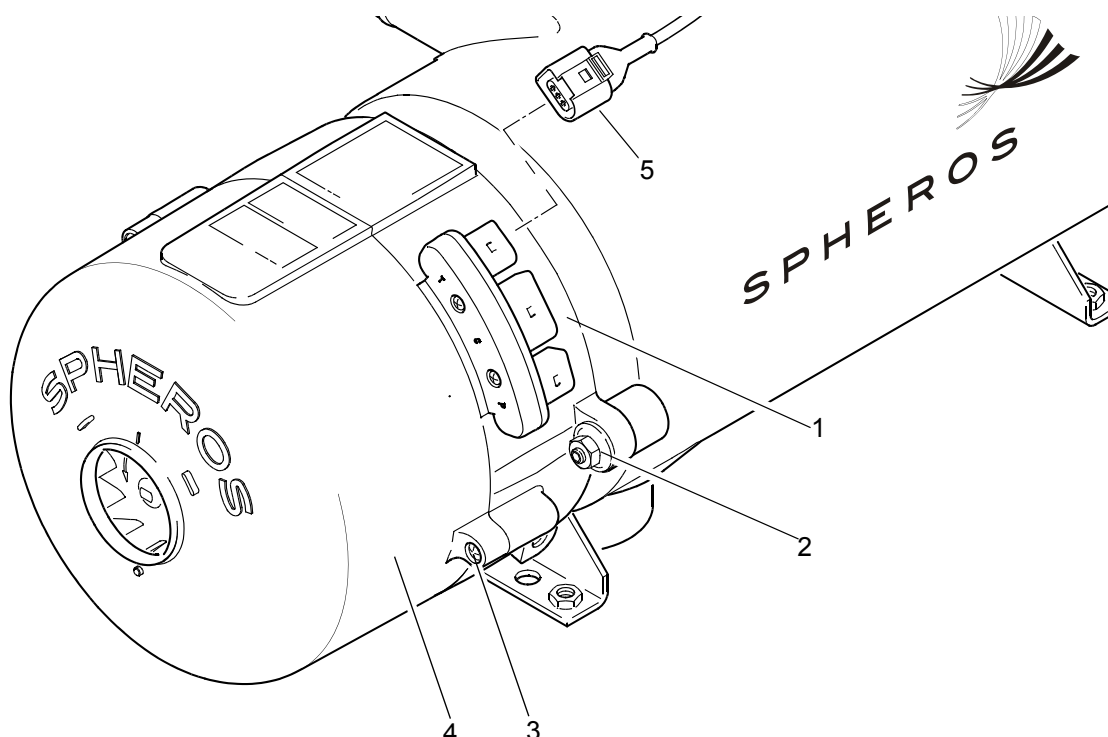

Fig. 801 Burner head / hood removal and installation
2. Disconnect the temperature sensor plug (5, Fig. 801).
1. Bring burner (1, Fig. 801) in assembly position and ensure centre alignment and correct fit.
2. Place nuts (2) and alternately tighten them slightly.
3. Tighten nuts (2) with $7.5 \text{ Nm} + 1 \text{ Nm}$ and apply screw locking paint.
6. Connect the temperature sensor plug (5).
- 2 Nuts (2)
- 3 Screws (2)
2. Tighten temperature sensor (1) with $8 \text{ Nm} \pm 0.5 \text{ Nm}$.
3. Connect temperature sensor plug (5, Fig. 801).
2. If applicable, disconnect the temperature sensor (5, Fig. 801).
3. Loosen screws (3, Fig. 801).
4. Remove hood (4).
1. Place hood (4, Fig. 801) in assembly position. Ensure centre alignment, proper fit and seal towards heater wiring harness.
2. Insert screws (3) and tighten with $2 \text{ Nm} + 0.5 \text{ Nm}$.
3. If applicable, reconnect the temperature sensor plug (5, Abb. 801).